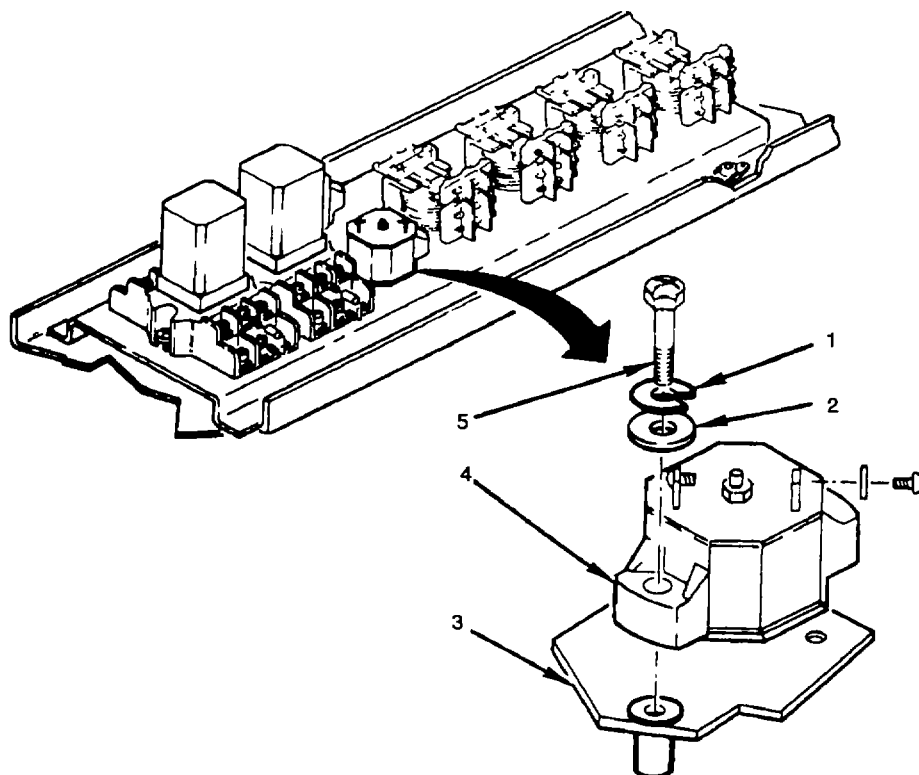

Figure 4-30. Circuit Breakers (CB1 and CB2)
- (1) Disconnect air conditioner input power at source, and
- (2) Remove control box assembly (paragraph 4 27).
- a Check that mounting hardware and circuit breakers are in place and secure (see fig. 4-30)